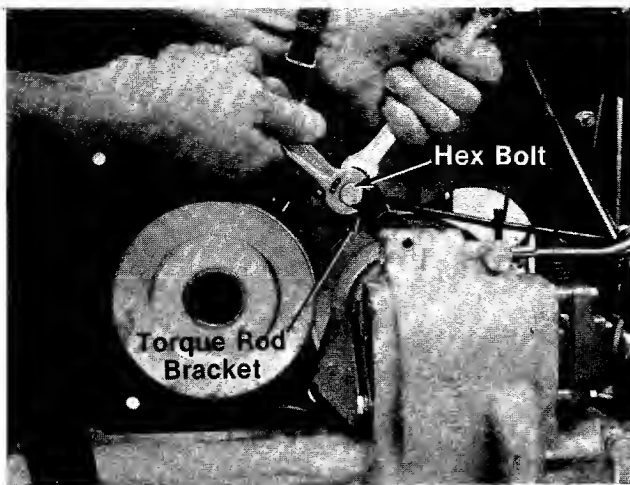

FIGURE 29.
3. Remove the hex bolt which holds the torque rod bracket to the torque rod, and remove bracket. See figure 29.